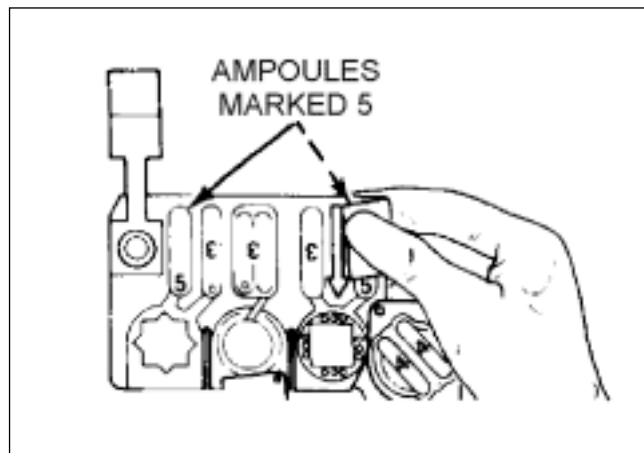

Fig 4-19. Crushing number 5 ampoules.
- (15) After 1 minute, swing the heater away from the test spot.
- (16) Hold the sampler detector with the test spots or arrows pointing down.
- (17) Using the heater pads, crush the remaining ampoules marked number 5. Be sure to wet the test spots by squeezing the ampoules to force the liquid onto the test spots (fig 4-19).